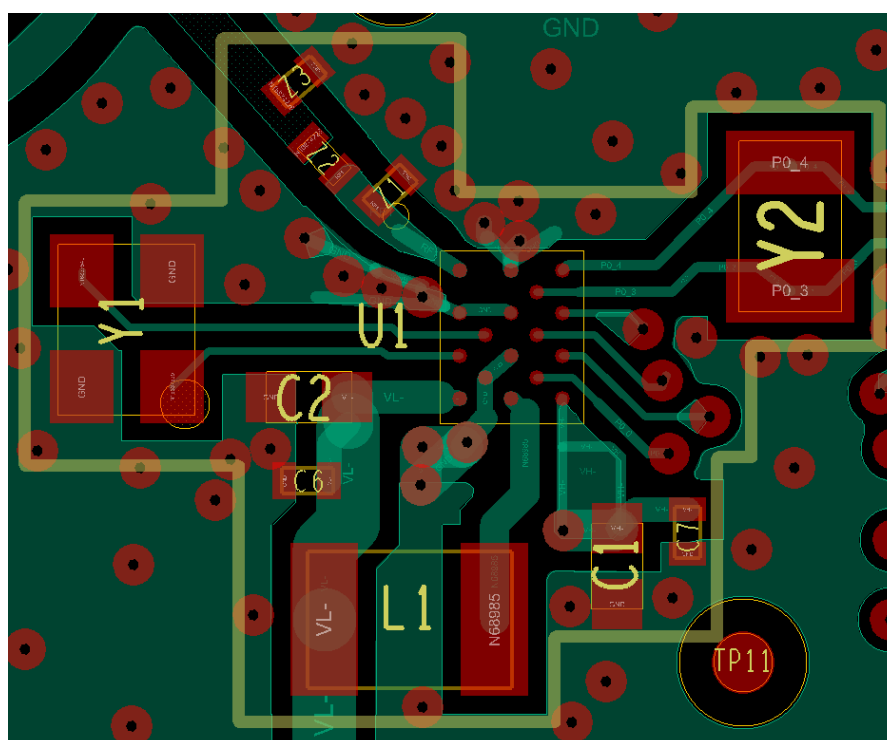

Figure 37: WLCSP17 - PCB Placement and Routing – Top Layer
- Connect pin A3 to GND with a via as shown in Figure 37
- Short C1, C3, and E3 pins together and use two or more GND vias, as shown in Figure 37
RF strip: calculate and route a 50 Ohm RF stripline between the DA14531 RFIOp pin and the antenna. A low-pass filter that consists of three components (Z1, Z2, Z3) must be put as close as possible to the chip. Both capacitors must be grounded on the same side of the RF stripline (RFIOm). See Figure 37.